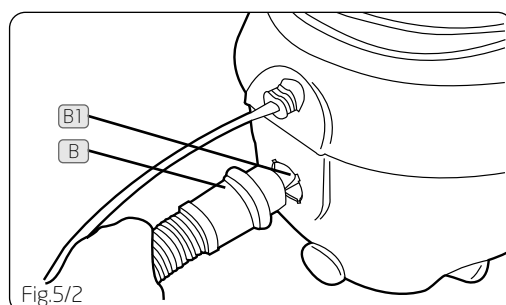

Fig.5/2
3. Push one end of the telescopic tube into the handle of the hose (Fig.5/3).